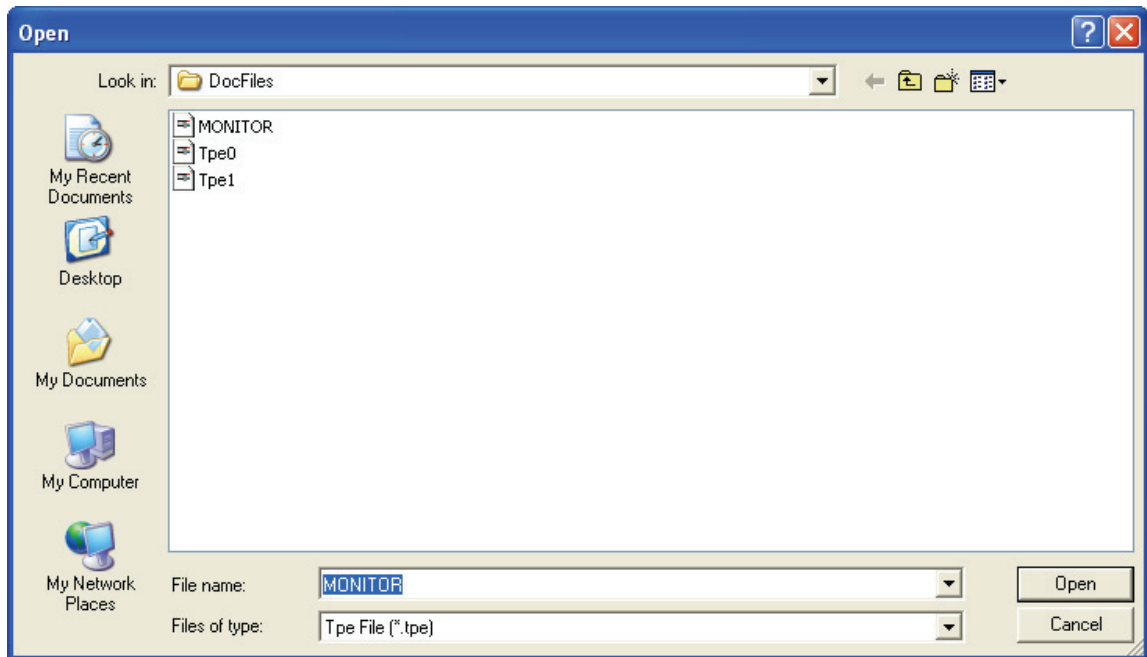

Figure 1-32
Step 2. After selecting **File (F) > Open File**, to create an old project, the Open dialog box will display (Figure 1-32) to let the users select the desired old file.